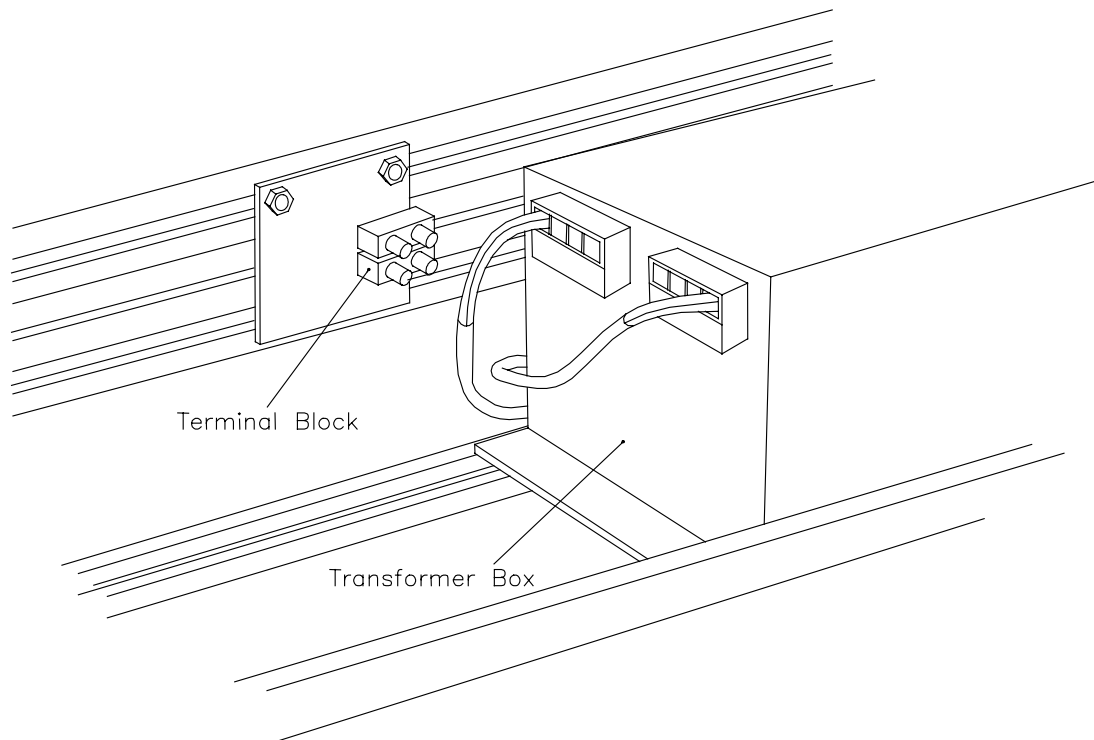

FIG. 10
3. Attach the input wires of the power source box to the terminal block located next to the transformer box. FIG. 10